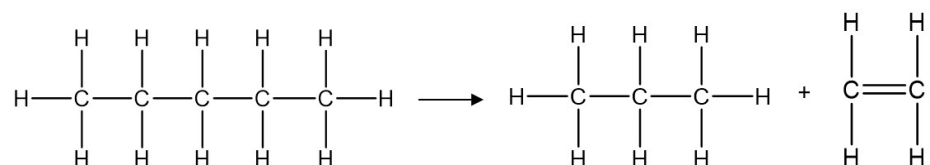

Fig. 9.5
- (a) Fig. 9.5 shows the equation of a cracking reaction.